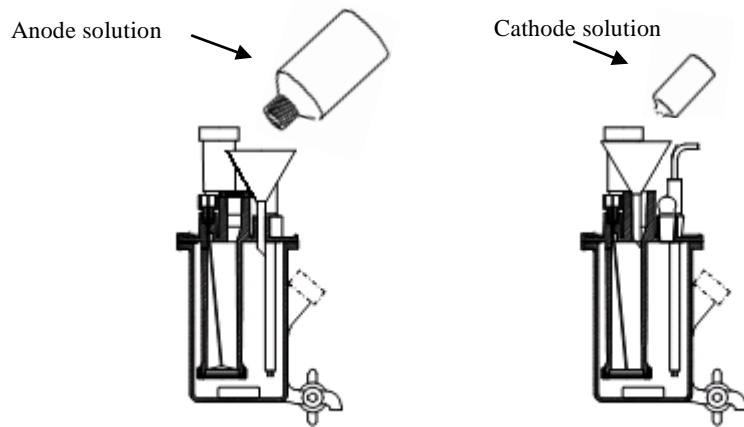
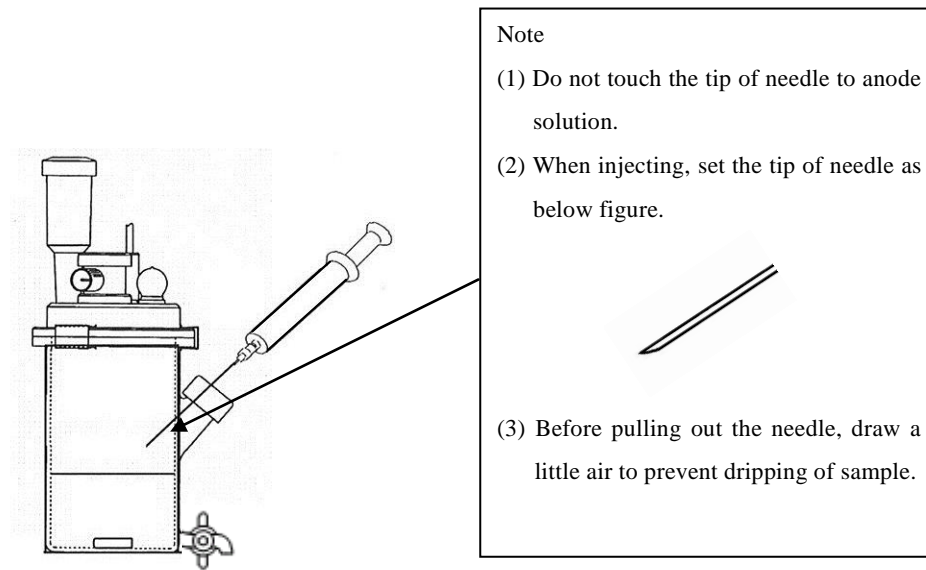

Fig.3.1. Preparation of the reagents. (Standard Cell)
Fig.3.2. Injection of sample.
- (1) Fill 100 mL of anode solution and one ampoule of cathode solution into the electrolytic cell as shown in Fig.3.1. When fritless cell is used, cathode solution is not necessary.
- (2) Start blanking to attain stable background.
- (3) Wash the syringe with sample.
- (4) Draw the sample into syringe and then weigh the syringe.
- (5) Inject sample from rubber septum of electrolytic cell as shown in Fig.3.2.
- (6) Start titration. Measurement parameter is shown in Table 4.1.
- (7) Weigh the syringe again and then set the difference of weight to sample size.